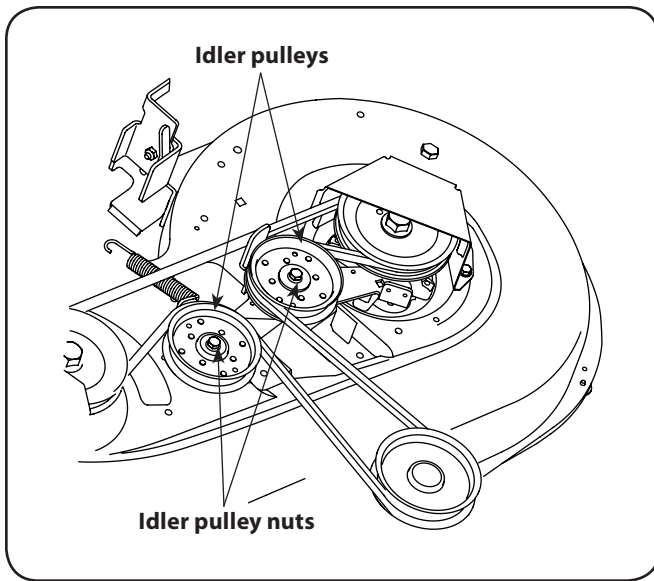

Figure 7-6
4. On the 42-inch deck only, loosen but do not remove, the idler pulley nuts. This will enable the belt to be easily removed from the idler pulleys. See Fig. 7-6.